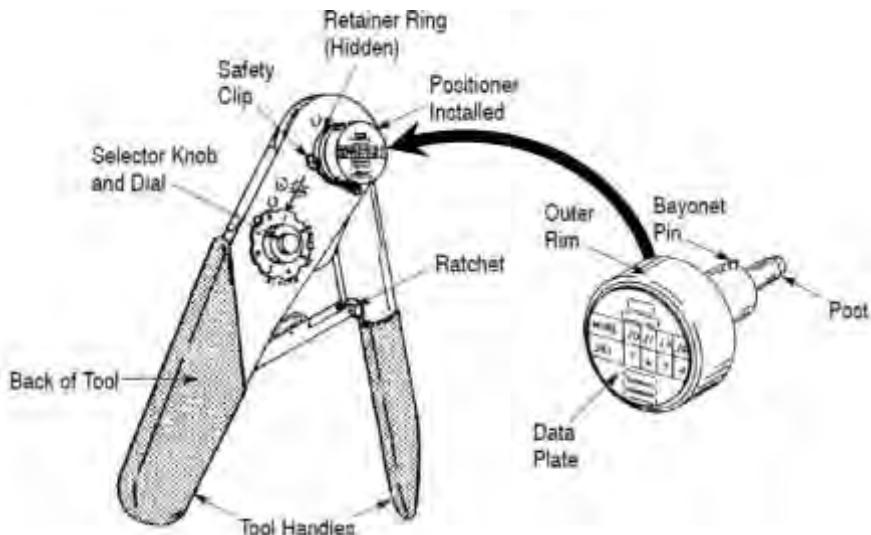

Figure 10
- b. M2520/2-01 (Figure 10)
- (1) Squeeze the tool handles together, then allow the handles to FULLY open.
- (2) Insert the post of the positioner into the hole in the back of the tool. Make sure the bayonet pin enters the slot in the retainer ring of the tool.
- (3) Firmly grip the outer rim of the positioner and push until the spring inside the positioner is depressed, then rotate the positioner clockwise until it stops.
(4) Insert the tool safety clip into the retainer ring to lock the positioner in place.